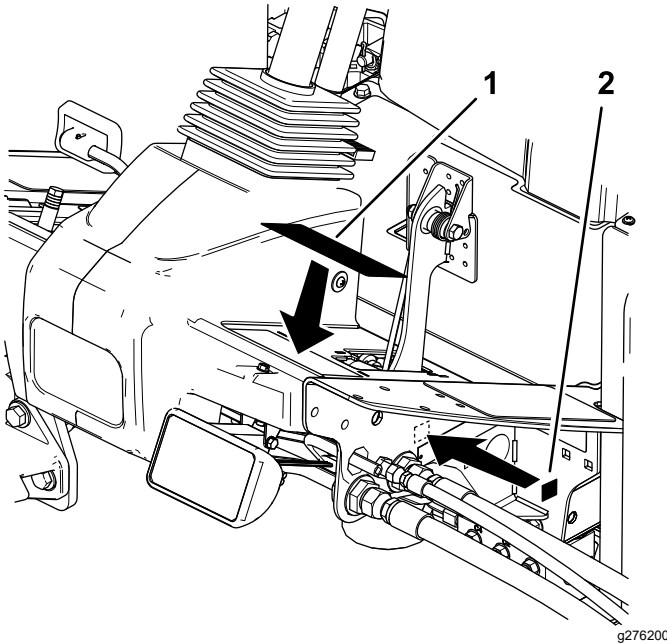

Figure 3
- On machines requiring CE compliance, install the warning decal included in the loose parts over the existing decal (Figure 3).
- Install the CE decal next to the serial number plate on the machine (Figure 3).